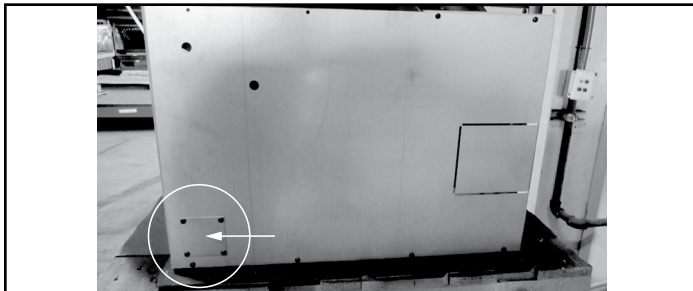

Figure 22.3
6. Install the cover plate over the top vent opening using 4 screws (**Figure 22.3**).